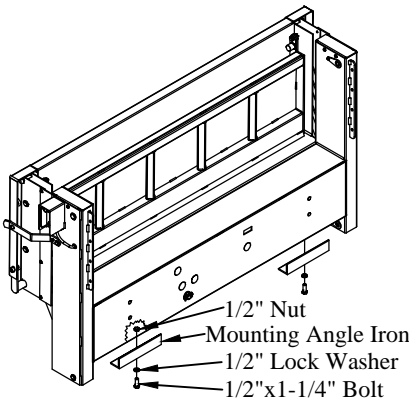

Figure 16: Mounting angle iron location.
1. **Install** the two (2) mounting angle irons to the bottom of the liftgate (Figure 16).